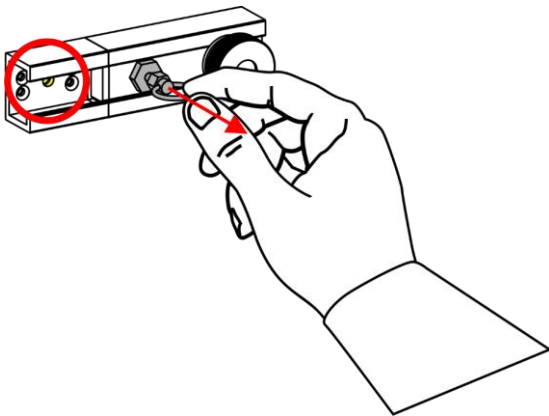
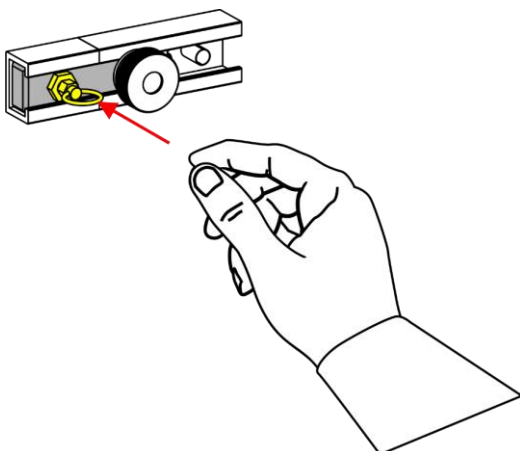

Fig. 12
Fig. 14
- 03) Pull the locking pin of the connection mechanism (16) towards you and slide the connection mechanism (16) onto the rail of the next device, as shown in Fig. 12 and 13. The red circle in Fig. 12 indicates the locking position for the locking pin.
- 04) Release the locking pin of the connection mechanism (16) in the designated hole (red circle Fig.12), as shown in Fig. 14.